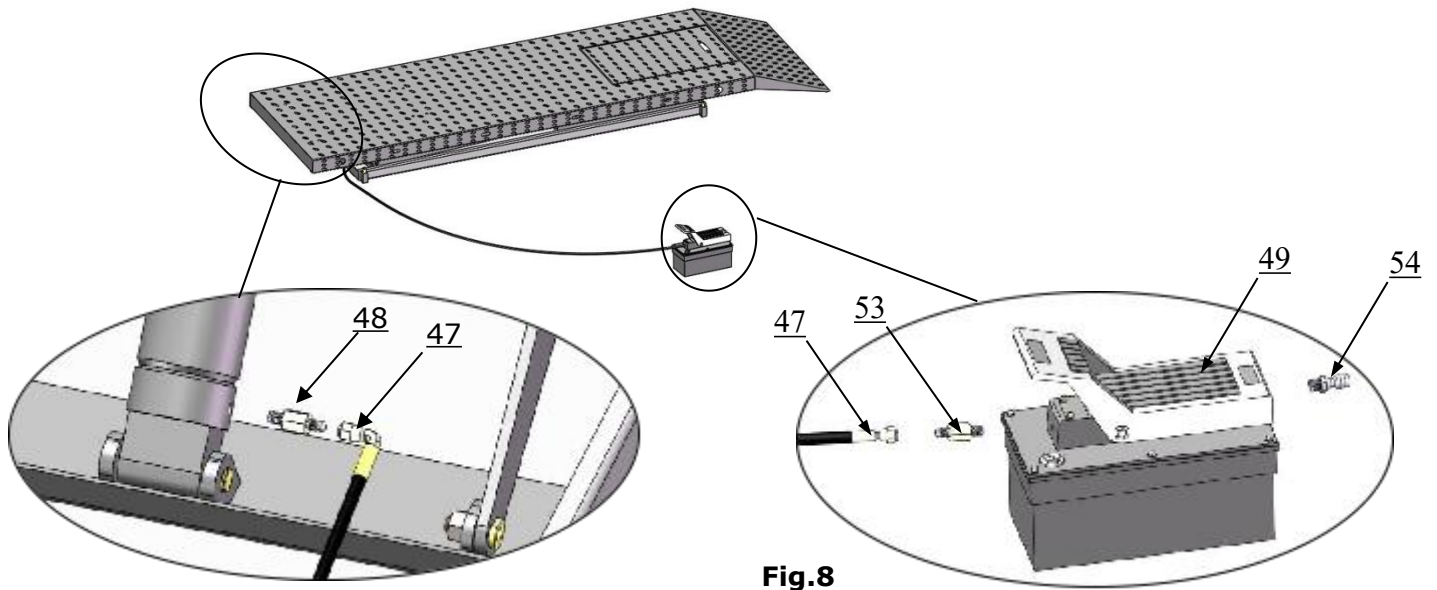

Fig.8
B. Place the lift and control cabinet to the installation site, connect the oil hose and tighten the fitting (see Fig.8)